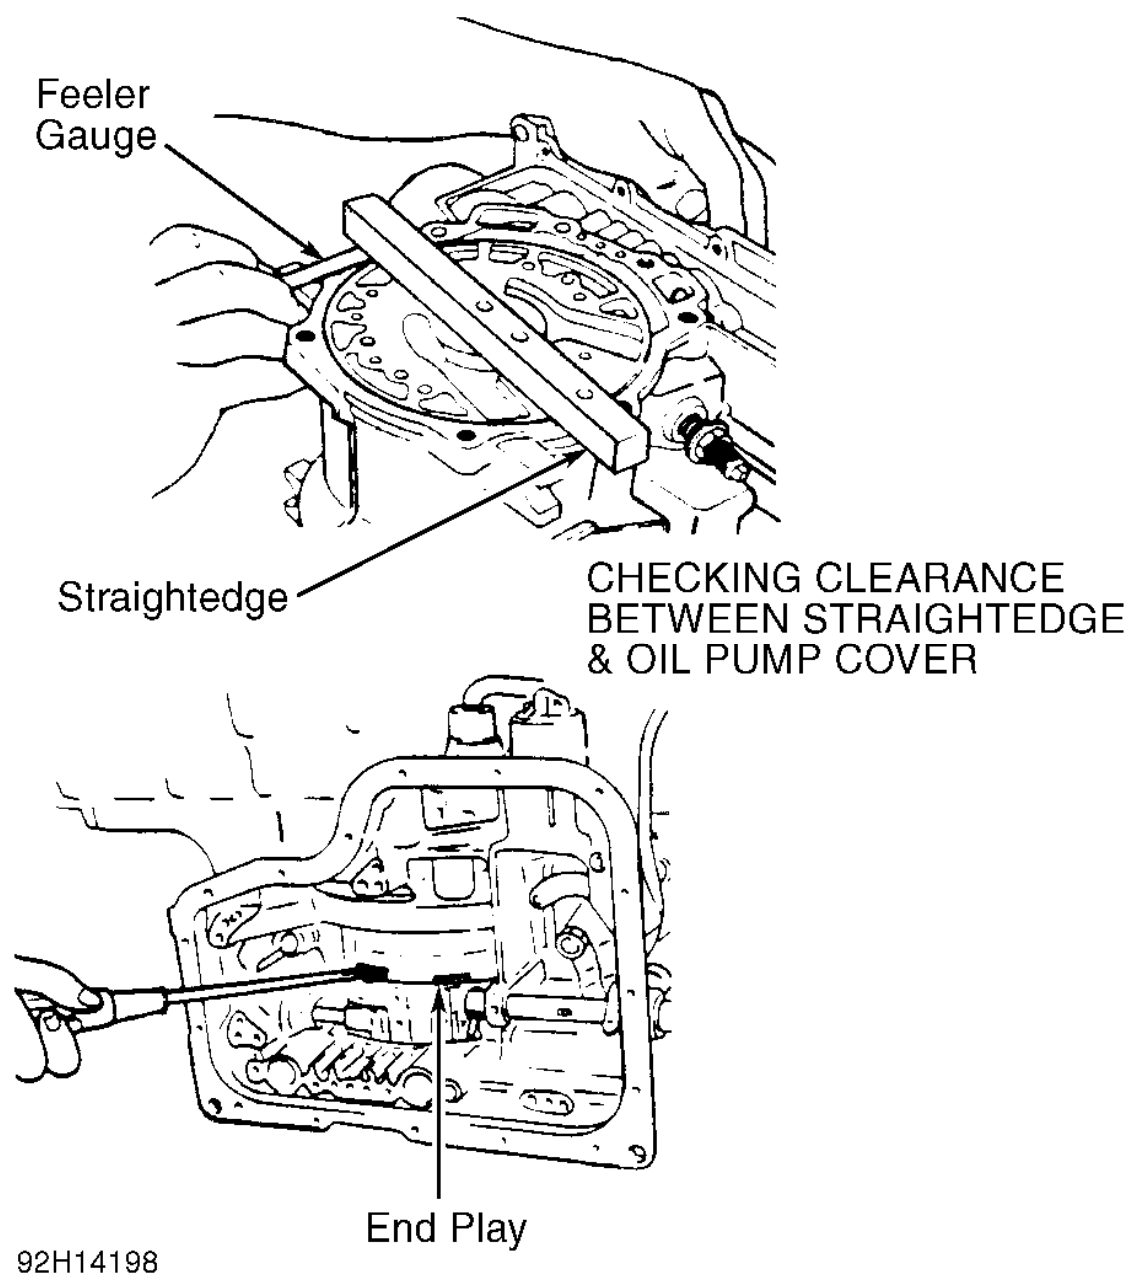

Fig. 26: Measuring Front Drum & Total End Play
case over pump cover. Measure clearance between straightedge and pump cover, or between straightedge and transaxle case. See Fig. 26.
7. Position transaxle with oil pump facing down. Turn sun shell 2 revolutions. Insert screwdriver between tabs of front clutch and sun shell deep slots. Using a feeler gauge, measure in the shallow slots. See Fig. 26.